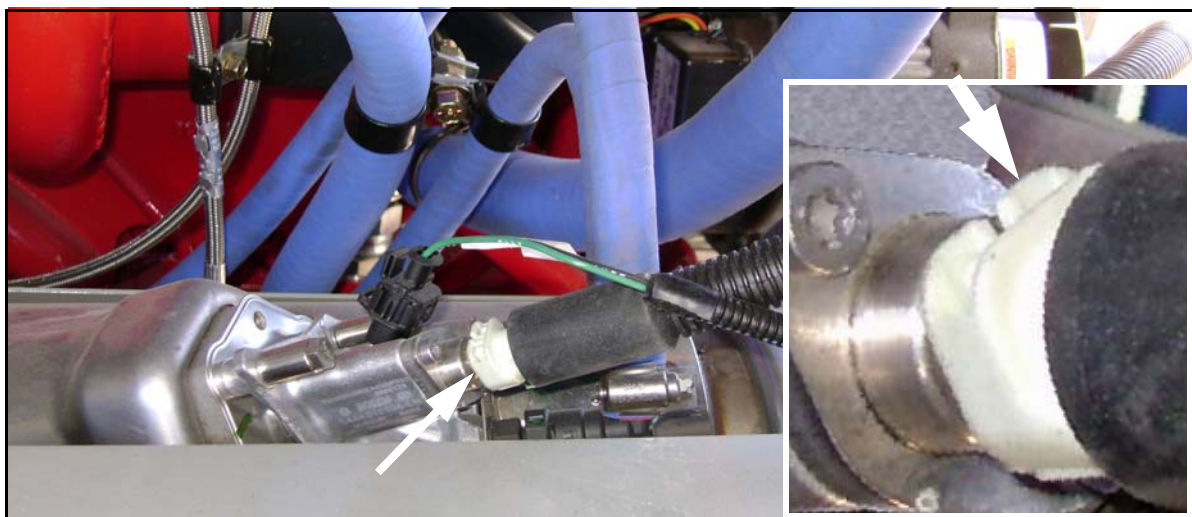

Figure 3.
6. Follow the routing of the DEF pressure line to locate the connection at the dosing module (refer to Figure 3). Apply pressure to the button on the spring-lock connector located at the end of the DEF pressure line to release the line from the dosing module.